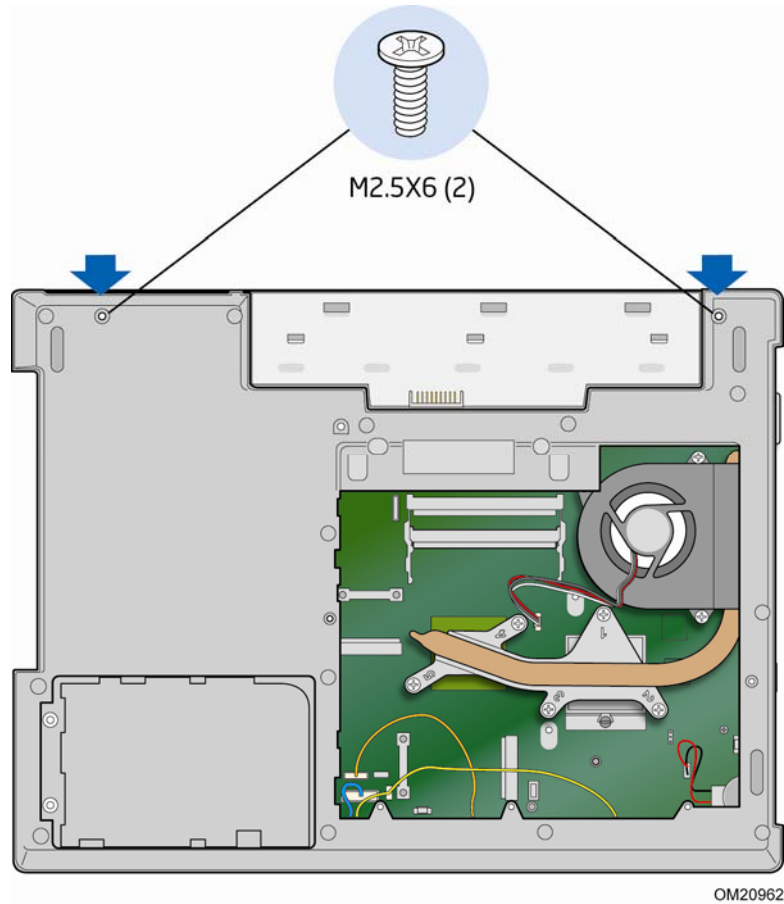

Figure 19. Securing the Lid/LCD Hinge Alignment Pins
6. Secure the hinge alignment pins with two screws through the bottom of the chassis as shown in Figure 19.